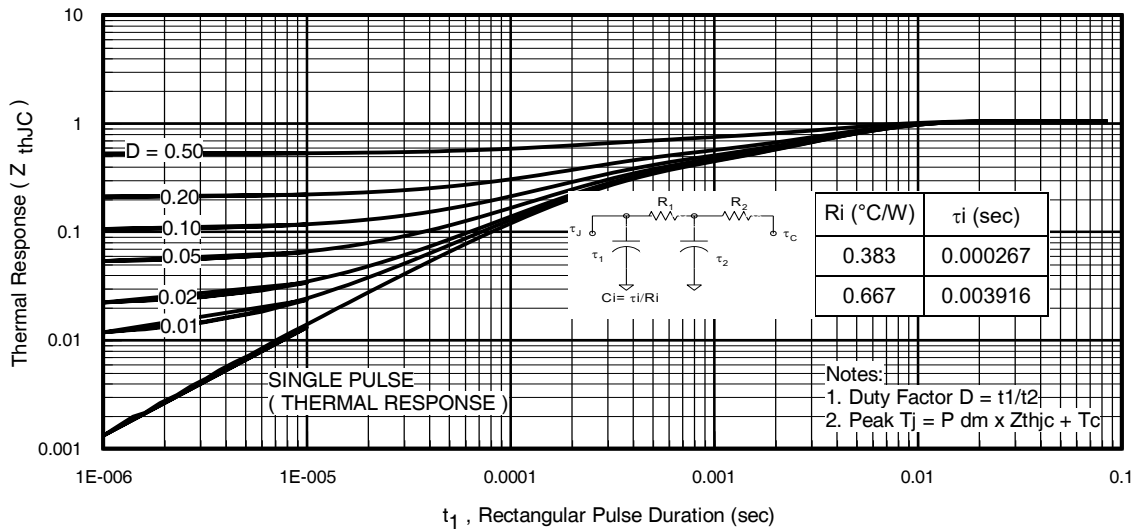
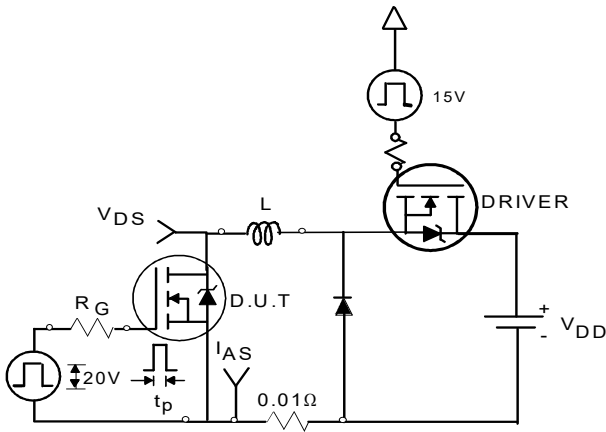

Fig 11. Maximum Effective Transient Thermal Impedance, Junction-to-Case
Fig 12a. Unclamped Inductive Test Circuit
- ① Repetitive rating; pulse width limited by max. junction temperature. (See fig. 11)
- ② Limited by T_{Jmax} , starting $T_J = 25^\circ\text{C}$, $L = 0.16mH$, $R_G = 25\Omega$, $I_{AS} = 38A$, $V_{GS} = 10V$. Part not recommended for use above this value.
- ③ Pulse width $\leq 1.0ms$; duty cycle $\leq 2\%$.
- ④ $C_{oss\text{ eff.}}$ is a fixed capacitance that gives the same charging time as C_{oss} while V_{DS} is rising from 0 to 80% V_{DSS}
- ⑤ Limited by T_{Jmax} , see Fig.12a, 12b, 15, 16 for typical repetitive avalanche performance.
- ⑥ This value determined from sample failure population. 100% tested to this value in production.
- ⑦ When mounted on 1" square PCB (FR-4 or G-10 Material). For recommended footprint and soldering techniques refer to application note #AN-994.
- ⑧ R_θ is measured at T_J approximately 90°C
- ⑨ Calculated continuous current based on maximum allowable junction temperature. Bond wire current limit is 42A. Note that current limitations arising from heating of the device leads may occur with some lead mounting arrangements.
3. Equation below based on circuit and waveforms shown in Figures 12a, 12b.